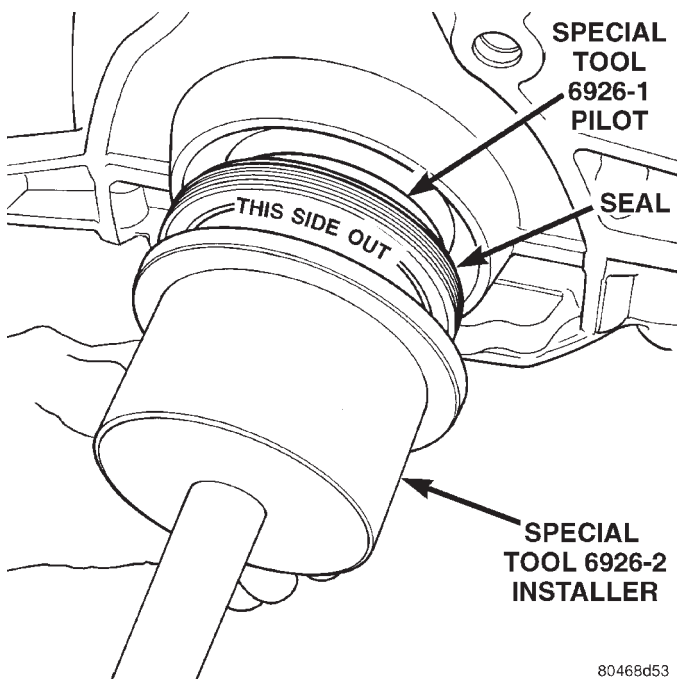
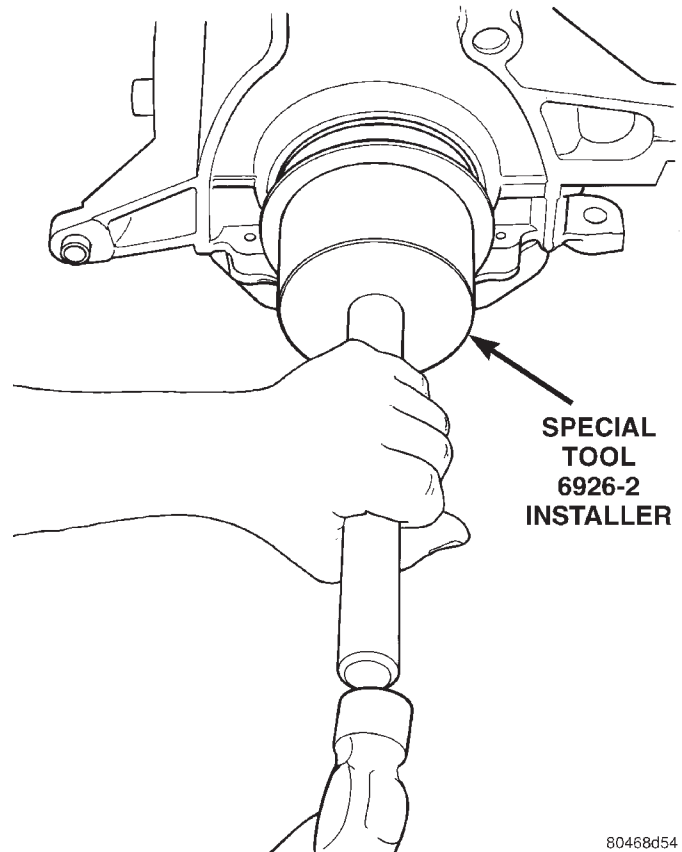

Fig. 80 Crankshaft Seal Special Tool 6926-2
Fig. 81 Rear Crankshaft Seal—Installation
- (3) Drive the seal into the block using Special Tool 6926-2 and handle C-4171 (Fig. 80) until the tool bottoms out against the block (Fig. 81).